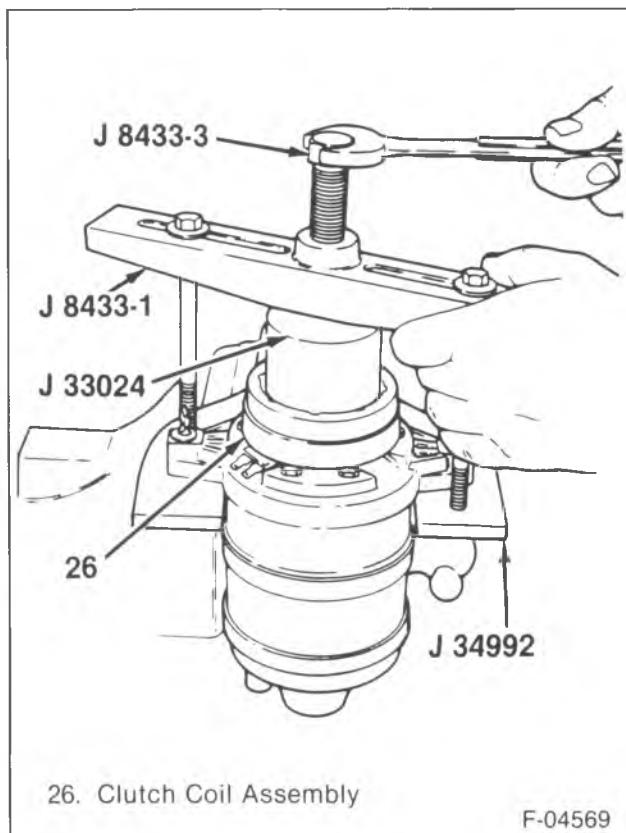
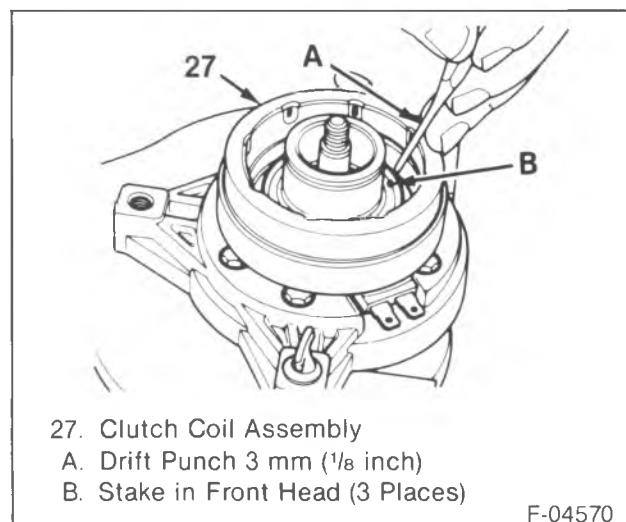

Figure 18—Installing the Clutch Coil Assembly
Figure 19—Staking the Clutch Coil to the Front Head
1. Clutch coil assembly (27) onto the front head (33) with the terminals positioned at the "marked" location.
- J 33024 over the internal opening of the clutch coil assembly (27) (figure 18).
- Be sure J 8433-1 and the clutch coil assembly (27) stay "in line" during installation.
- When the clutch coil assembly (27) is seated on the front head (33), use a 3 mm ($\frac{1}{8}$ -inch) diameter drift punch to stake the head (33) at 3 places, 120 degrees apart to assure the clutch coil assembly (27) remains in position (figure 19).